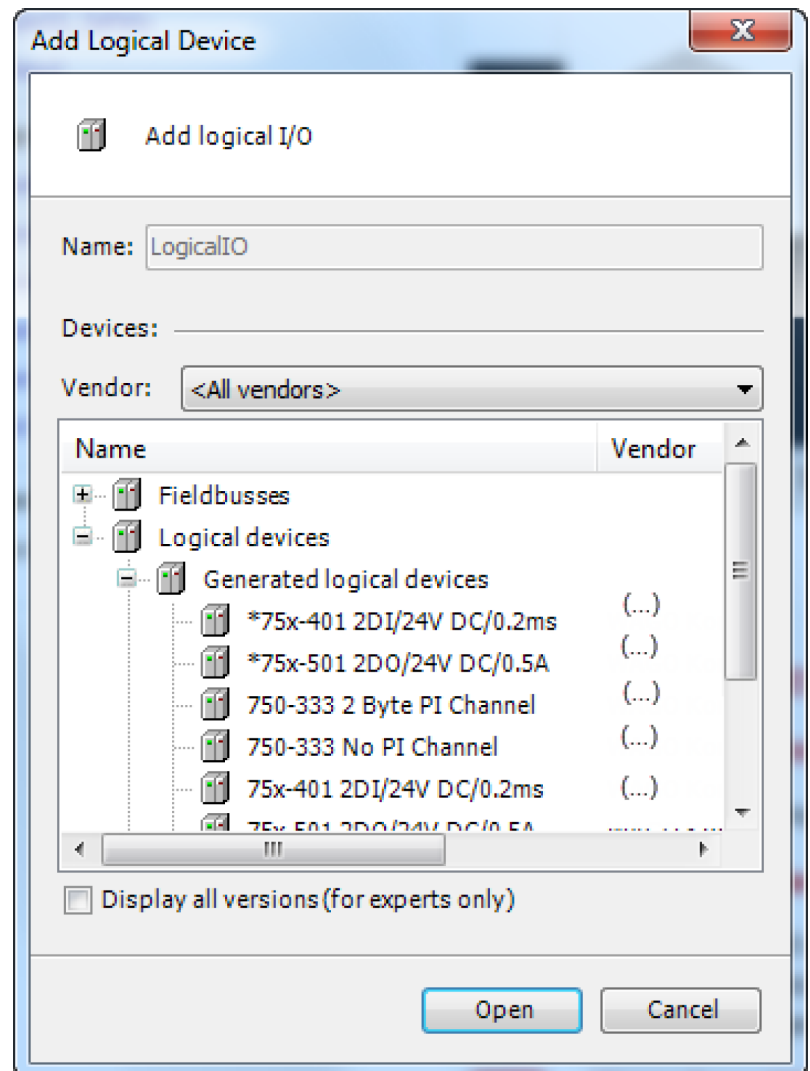

Fig. 24: 'Add Logical Device' dialog
3. ➤ In the “Add Logical Device” dialog (see Fig. 24) in the “Logical Devices” category, select the corresponding logical I/O in the “Generated logical devices” subcategory